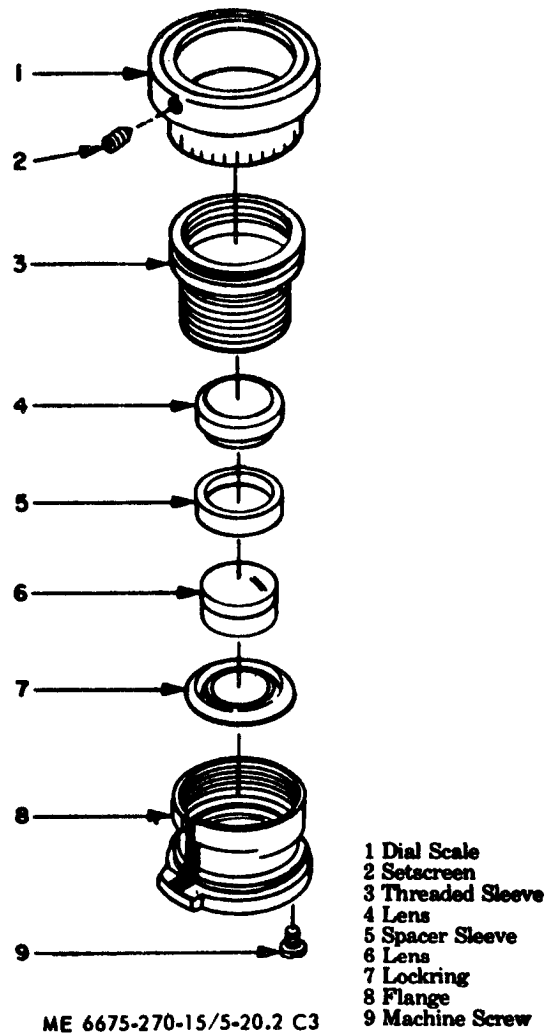
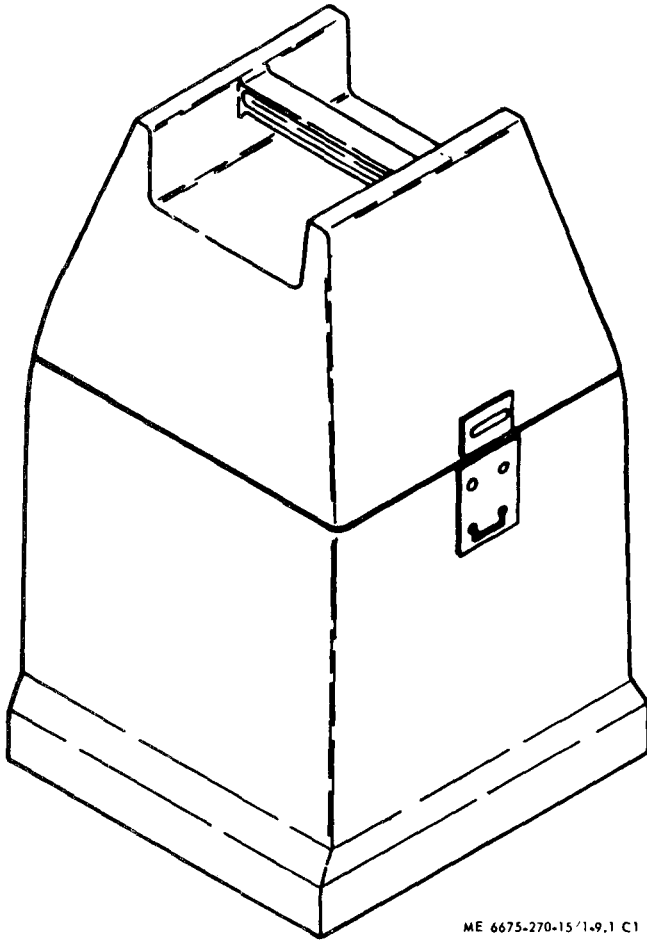

Figure 5-20-2. Telescope eyepiece assembly, model TD-16-68GED.
Figure 1-9.1. Shipping case (model T16-MIL68 type II)
f. Figures 1-9.1., 2-4.1, 4-7.1, 4-8.1, 6-2.1, 5-20.1 (Change 1) apply only to Theodolite Model T16-68MIL, FSN 6675-861-7939, serial numbers 136735 through 136754, 136885 through 136949 and 137035 through 137099.
g. Figures 1-9.1, 2-4.1, 4-7.1, 4-8.1, 6-2.1 (Change 1) and figure 5-20.2 apply only to Theodolite Model T16-68DEG, FSN 6675-770-4958, serial numbers 166681 through 166730, 167181 through 167205, 171981 through 172005, 17228 through 172581 through 172605 and 17831 through 172866.
Page 5-19 immediately after figure 5-20, figure 5-20.2 is added as follows:
f. Figures 1-9.1, 2-4.1, 4-8.1, 6-2.1, 5-2.1 apply only to Theodolite Model T16-68MIL, FSN 6675-861-7939, serial numbers 136735 through 136754, 136885 through 136949 and 137035 through 137099.